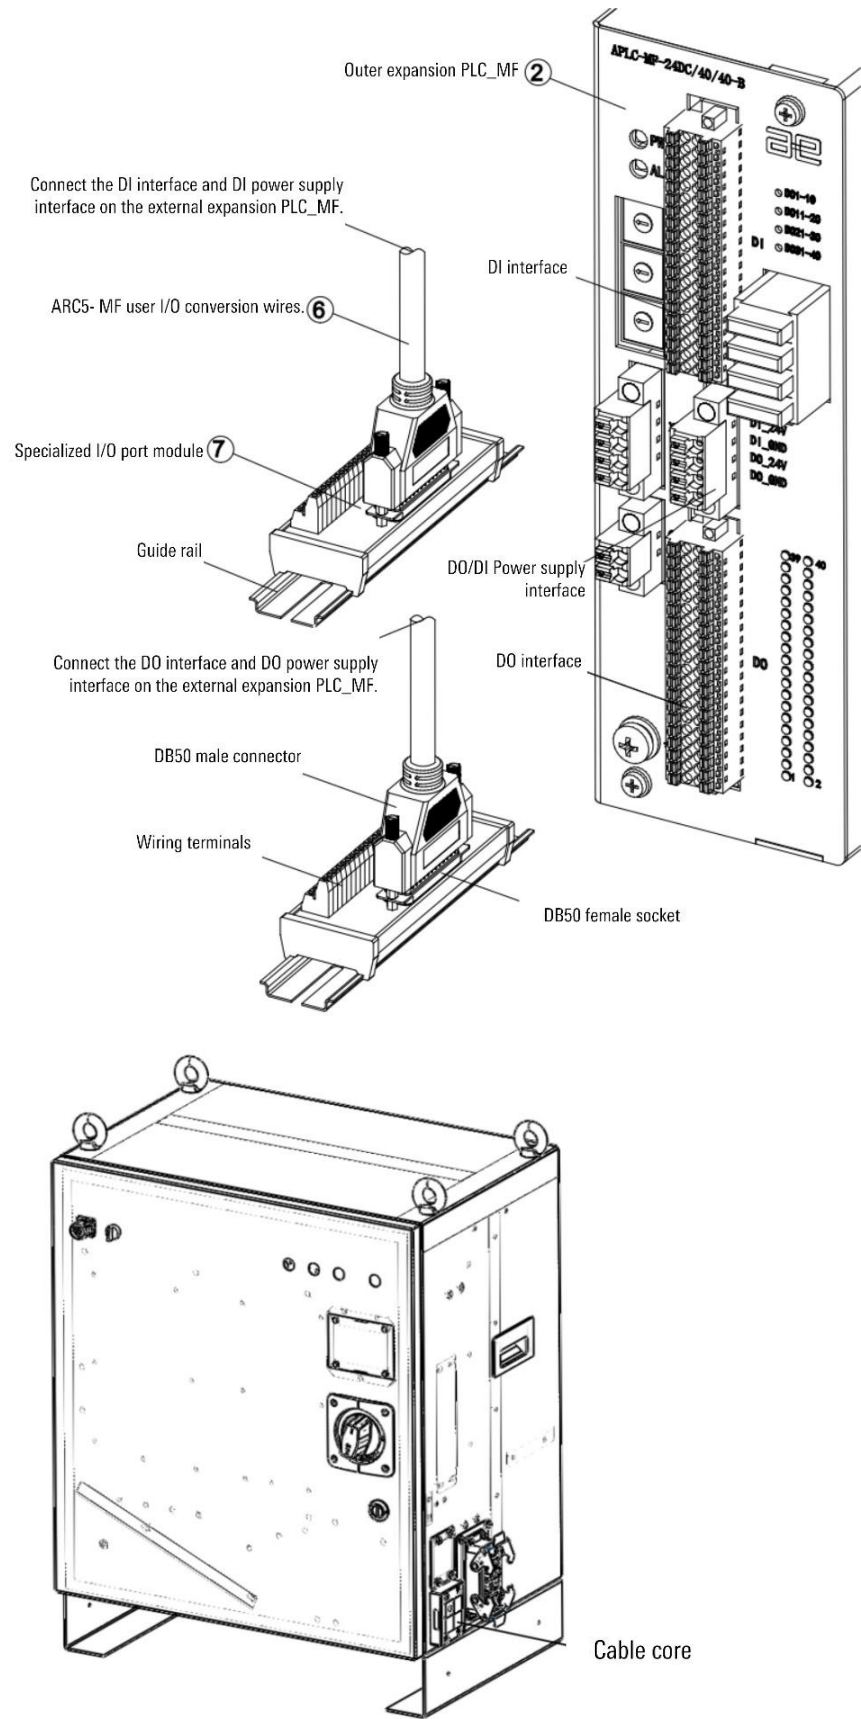

Figure 17-5 Diagram of connecting user I/O terminal
Step4. Connect one end of the two ARC5-MF user IO adapter cables to the DI interface and DO interface on the expansion PLC\_MF, and the other end to the user MF I/O terminal module, refer to Figure 17-5. Two ARC5-MF user IO adapter cables are connected out of the cabinet through the cable core on the right side of the control cabinet. For the PLC\_MF baud rate setting, refer to Table 16-14.